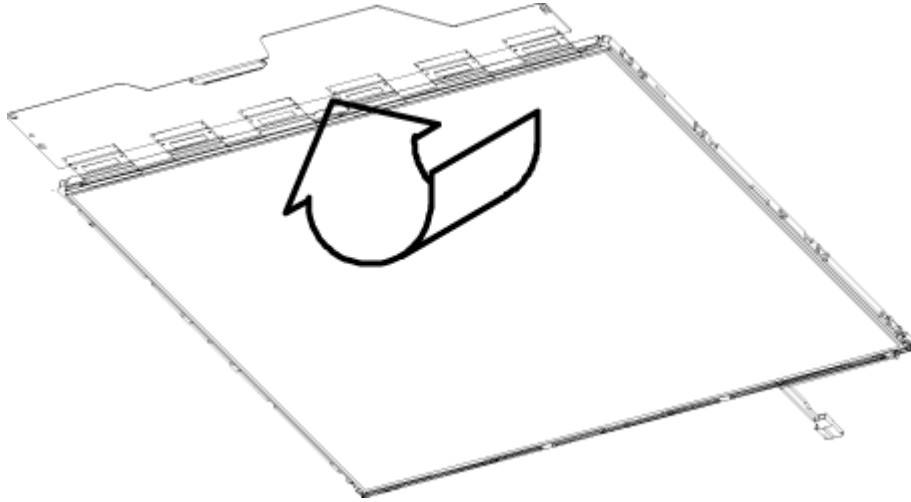

Figure 4-56 Replacing 14.1 Inch TMD fluorescent lamp (SXGA+) (4)
1. Spread out the PCB horizontally, as shown in Figure 4-56.